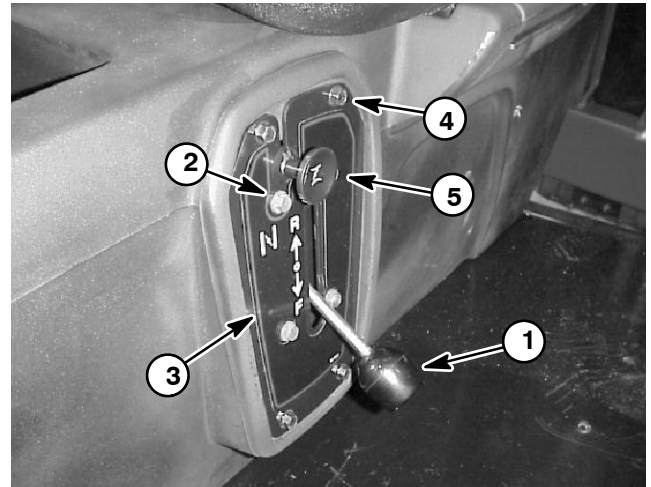

Figure 26
4. Unscrew knob from the shift lever. Remove four (4) short cap screws securing the shift plate to the shift bracket (Fig. 26).
5. Remove four (4) long cap screws securing the shift plate to the seat base (Fig. 26). Separate shift bracket from the choke cable and seat base.
6. Remove eight (8) flange head screws and flat washers that secure the seat base to the frame.
2. Install eight (8) flange head screws and flat washers through the frame and into the seat base. Tighten screws from the middle of the vehicle to the outside.
4. Position choke cable and shift plate to shift bracket making sure to capture cable flange. Secure shift plate to shift bracket with four (4) short cap screws. Screw knob onto the shift lever (Fig. 26).
5. Position shift plate with shift bracket to the seat base. Secure shift plate to seat base with four (4) long cap screws (Fig. 26).